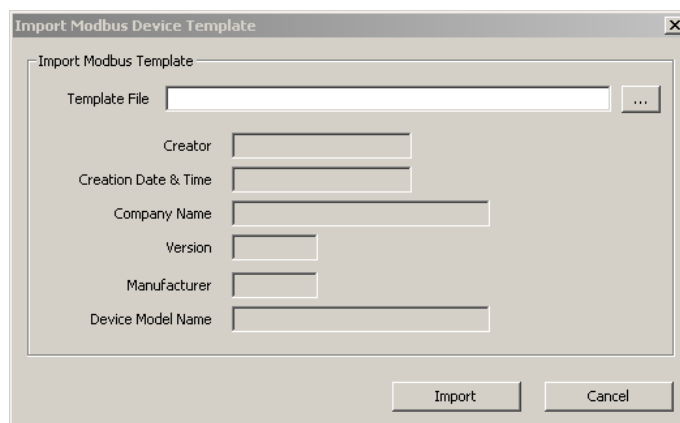

Figure 103 Import Modbus Device Template dialog.
3. Click on the **Create From Template** button. This opens the **Import Modbus Device Template** dialog shown in Figure 103.
3. Click on the **Create with DP** button. This opens the **Import Modbus Device Template** dialog shown in Figure 103.